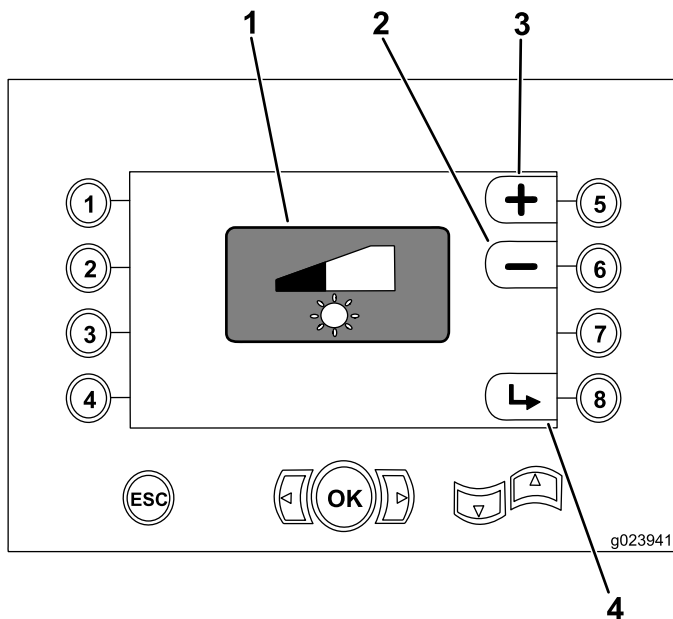

Figure 36
- Button 5—Increase the display brightness (Figure 36)
- Button 6—Decrease the display brightness (Figure 36)